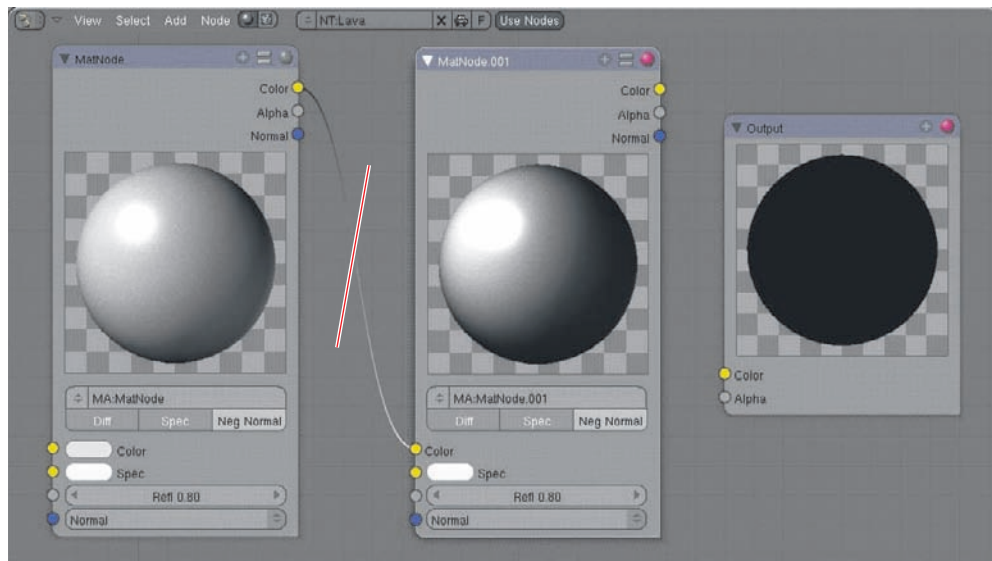

Figure 1.7 Two new input materials
3. Add a second material node to the node setup. Do this by pressing the spacebar while in the Nodes Editor window and choosing Add > Input > Material, and then selecting Add New from the highlighted drop-down list on the node. The new node will be connected to the previous node by default. Hold the left mouse button (LMB) and drag your mouse across this connection to sever it, as shown in Figure 1.7. Rename MatNode and MatNode.001 to **Rock** and **Magma**, respectively, and rename the main node material from Material to **Lava**.